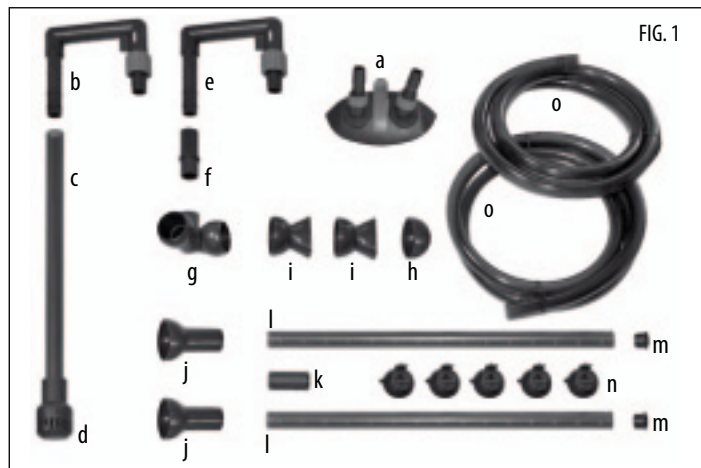

FIG. 1
I. Open NEWA Kanist package, take out the box with the external filter accessories, and place the accessories on the table, as shown in the figure (fig. 1). Assemble the inlet block, connecting the prefilter grid (d) with the connecting tube (c), and then with the U-shaped inlet nozzle (b). It is crucially important to ensure correct assembling of these two components, with a force enough to overcome the resistance of two O-shaped gaskets, so that the suction tube tightly fits the inlet nozzle (fig. 13). To facilitate the operation, it is recommended to moisten the O-shaped gaskets. If necessary, position of the suction tube can be regulated by moving it downwards to the first gasket level. To provide a more efficient operation, make sure that the pre-filter grid (d) is at a distance of 4-5 cm from the bottom of the aquarium. If the connecting pipe (c) is too long, cut it with a saw.